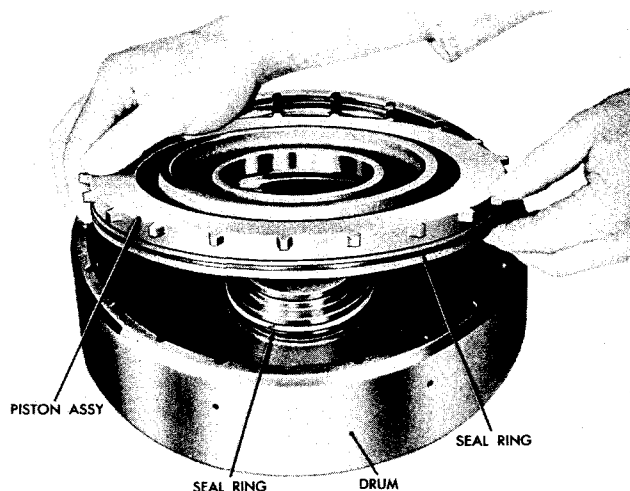

Fig XI-4. Removing or installing intermediate-range clutch piston assembly
(3) Remove the intermediate-range clutch piston assembly (fig XI-4). Remove the seal ring from the piston.
(4) Remove the hook-type seal ring from the drum (fig XI-4).
(1) Install the hook-type seal ring in the drum (fig XI-4).
(2) Install the seal ring on the piston. Install the intermediate-range clutch piston assembly (fig XI-4).